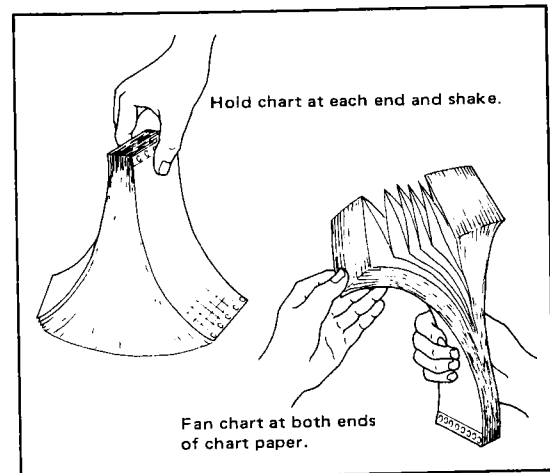

Figure 5-8. Fanning Chart.
- (3) "Fan" the chart paper sufficiently prior to loading it. Refer to Figure 5-8.